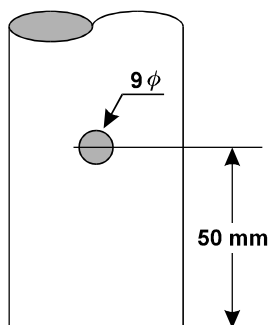

Figure 1
1. Drill a 9 mm diameter hole through both walls of the mast, centered 50 mm from the mast bottom (see Figure 1). Ensure the drill is maintained perpendicular and centered when making the holes, to ensure proper alignment of the holes in the mast with those in the base support clamp.